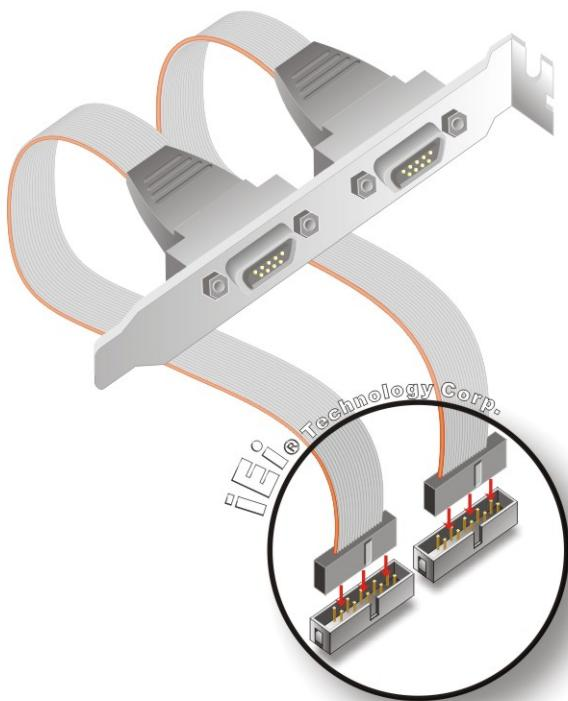

Figure 4-17: Dual RS-232 Cable Installation
Step 2: Insert the cable connectors. Insert one connector into each serial port box headers. See **Figure 4-17**. A key on the front of the cable connectors ensures the connector can only be installed in one direction.